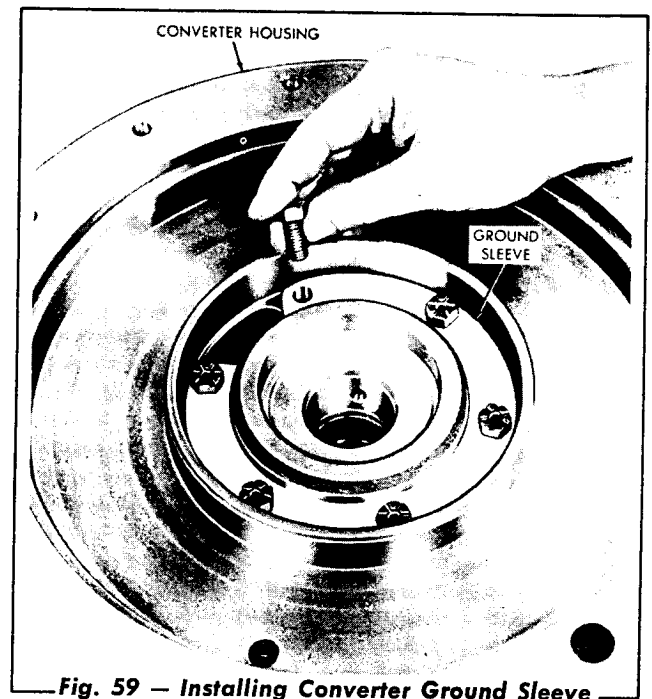

Fig. 59 — Installing Converter Ground Sleeve
If the converter ground sleeve (19) was removed, chill the sleeve in dry ice for one hour and install into the front side of the converter housing (37). Secure the ground sleeve with the capscrews (Fig. 59).